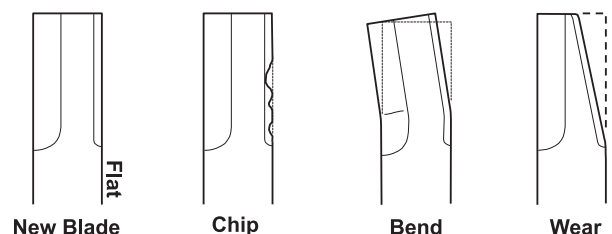
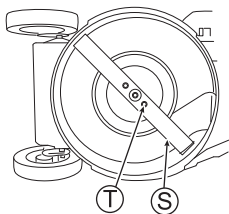

Fig. 33
Fig. 34
1. Confirm that there is no chip, bend, or wear with the blade (S). (See Fig. 33)
2. If the blade (S) or its the blade mounting bolts (T) are "worn", "broken" or "deformed", exchange with new one(s) specified by us.
3. Confirm that the blade mounting bolts (T) are tightened by the specified torque. (See Fig. 34)
2. Fully tighten the blade mounting bolts (T) with hand.
4. Confirm that the blade mounting bolts (T) are tightened by the specified torque. (See Fig. 34)